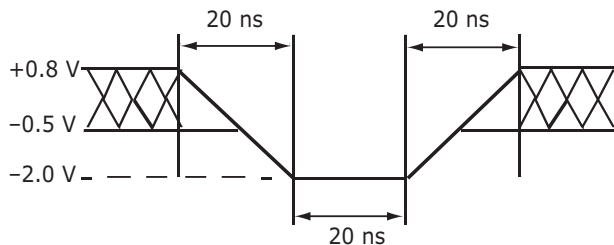
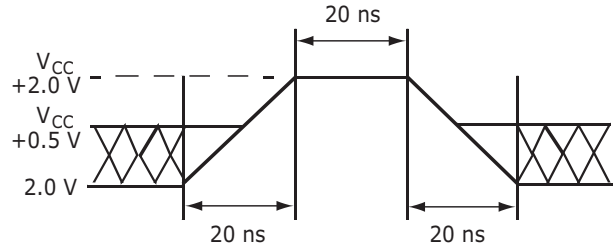

Figure 8. Maximum Negative Overshoot Waveform
Figure 9. Maximum Positive Overshoot Waveform
1. Minimum DC voltage on input or I/O pins is -0.5 V. During voltage transitions, input at I/O pins may overshoot V_{SS} to -2.0 V for periods of up to 20 ns. See Figure 8. Maximum DC voltage on output and I/O pins is 3.0 V. During voltage transitions output pins may overshoot to $V_{CC} + 2.0$ V for periods up to 20 ns. See Figure 9.
2. Minimum DC voltage on pins ACC, A9, OE#, and RESET# is -0.5 V. During voltage transitions, A9, OE#, and RESET# may overshoot V_{SS} to -2.0 V for periods of up to 20 ns. See Figure 8. Maximum DC input voltage on pin A9 and OE# is +13.0 V which may overshoot to 14.0 V for periods up to 20 ns.